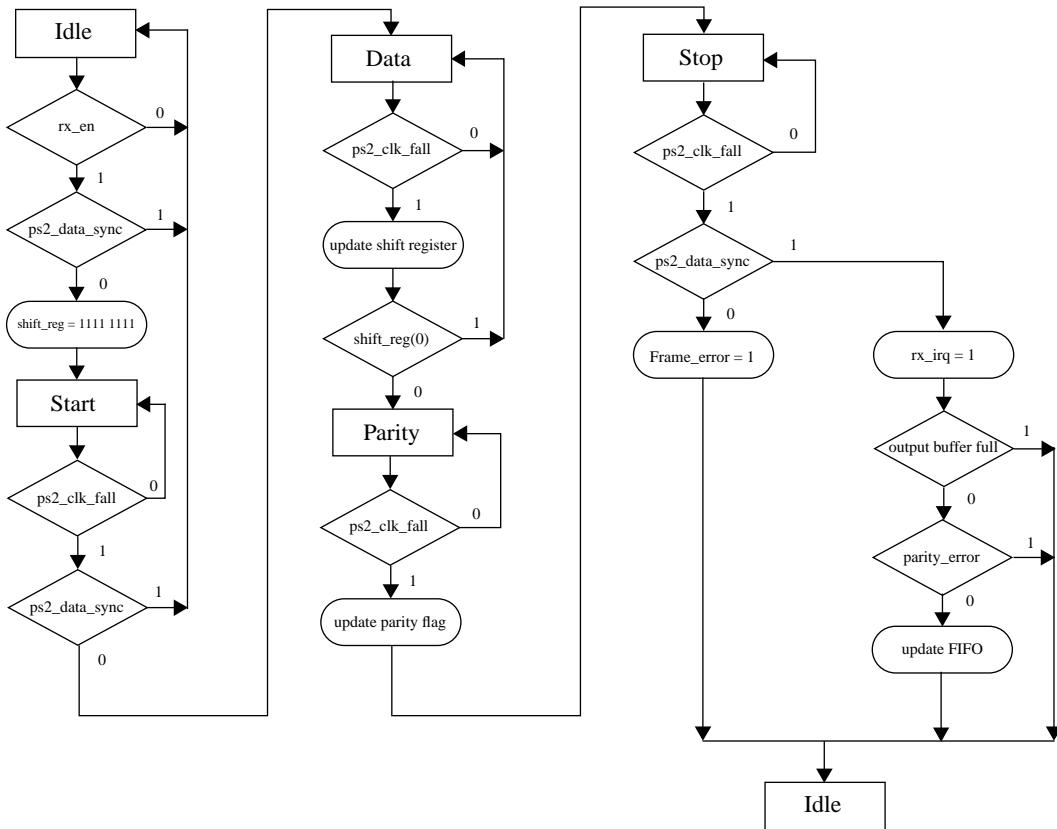

Figure 20. Flow chart for the receiver state machine
The receiver of APBPS2 receives the data from the keyboard or mouse, and converts it to 8-bit data frames to be read out via the APB bus. It is enabled through the receiver enable (RE) bit in the PS/2 control register. If a parity error or framing error occurs, the data frame will be discarded. Correctly received data will be transferred to a 16 byte FIFO. The data ready (DR) bit in the PS/2 status register will be set, and retained as long as the FIFO contains at least one data frame. When the FIFO is full, the receiver buffer full (RF) bit in the status register is set. The keyboard will be inhibited and buffer data until the FIFO gets read again. Interrupt is sent when a correct stop bit is received then it's up to the software to handle any resend operations if the parity bit is wrong. Figure 20 shows a flow chart for the operations of the receiver state machine.